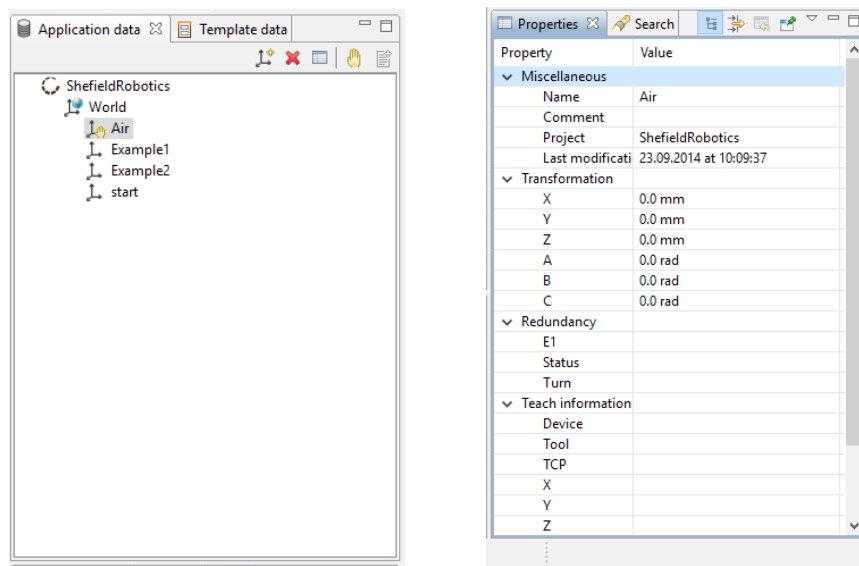

Figure 2. Creating a new frame with the name "Air". Left: Application data – frames. Right: Frame properties by category.
- 2) You need to creating a new frame with the name "Air" (see Figure 2):